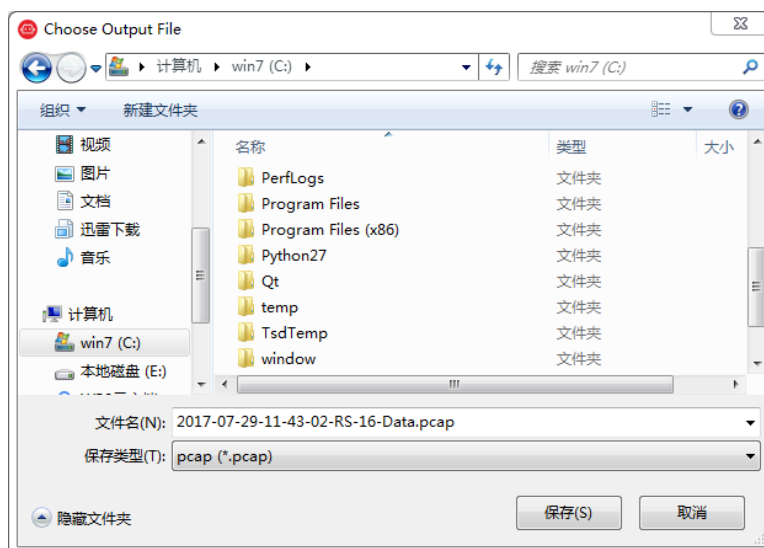

Fig C-5 RSView Record Saving Dialog
2. A Choose Output File dialog will pop up. Navigate to where you want the file to be saved and click the **Save** button (Fig C-5). RSView begins writing packets to your pcap file. (Note: RS-LiDAR-32 sensors generate a lot of data. The pcap file can become quite large if the recording duration is lengthy. Also, it is best to record to a fast, local HDD or SSD, not to a slow subsystem such as a USB storage device or network drive.)